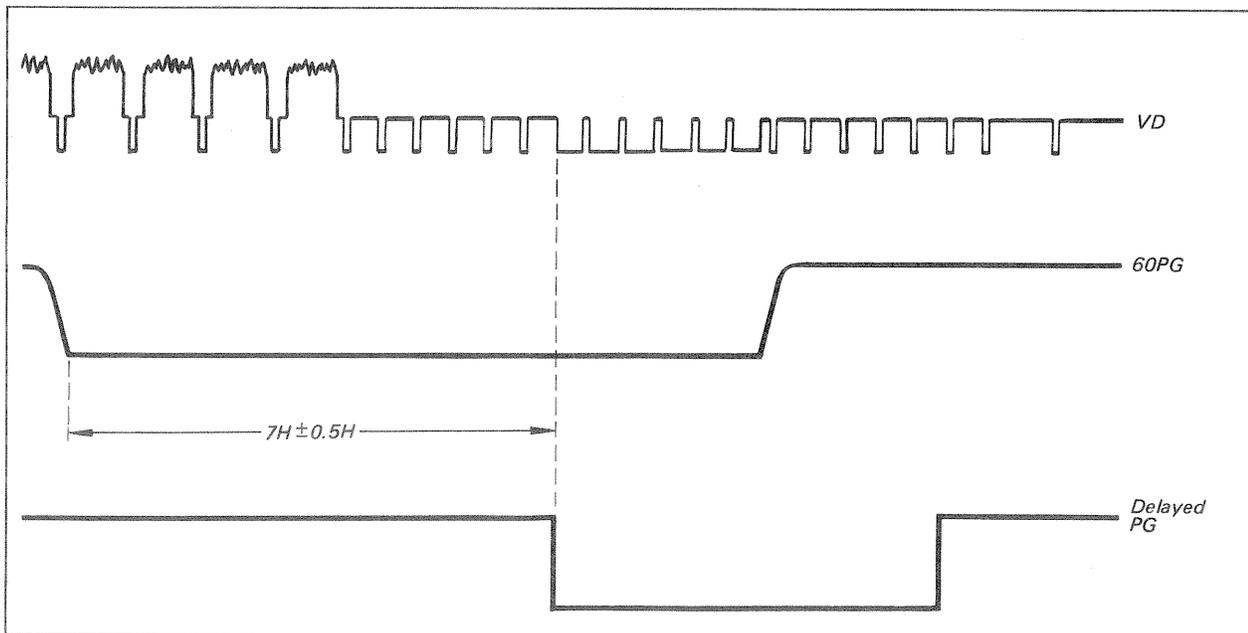

Fig. 4-5
6. Adjust the 30PG coil so that the 60PG pulse leads the VD pulse by $7H \pm 1H$. See Fig. 4-5.
6. Adjust R723 so that the VD and PG pulses are in phase. See Fig. 4-5.